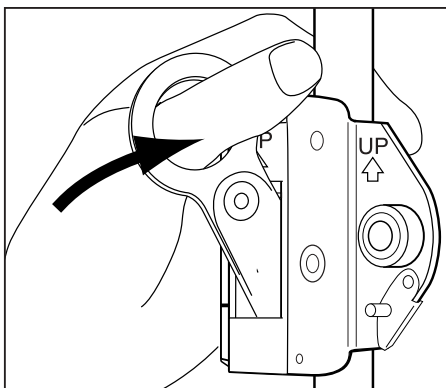

FIGURE 3
- 2.12 Firmly squeeze the attachment ring inwards to engage the Panic Stop mechanism and pull sharply downward. The rope grab must activate to stop the movement on the lifeline. (Figure 3)